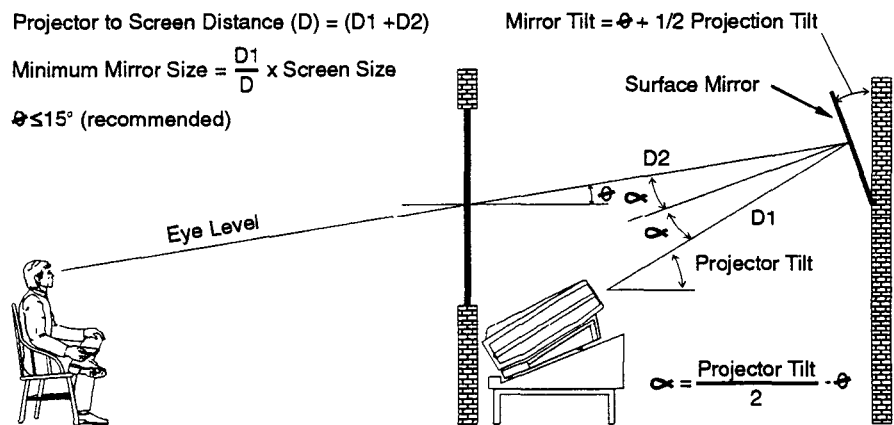

Figure 2-14. Folded Optics
In situations where the space behind the projector is limited, a mirror may be used to fold the optical path as illustrated in Figure 2-14. If a diffused screen is used, the projection angle θ should be less than 15°. If an optical screen is used, the optical path between the mirror and the screen should be perpendicular to the screen. Much attention must be given to the positioning of the projector and the mirror. This can be quite difficult for installers unfamiliar with this type of installation. It is recommended that your dealer or an experienced installer perform the installation.
Note: When using a mirror as shown in Figure 2-14, the calculated throw distance (D) is the summation of D1 and D2.